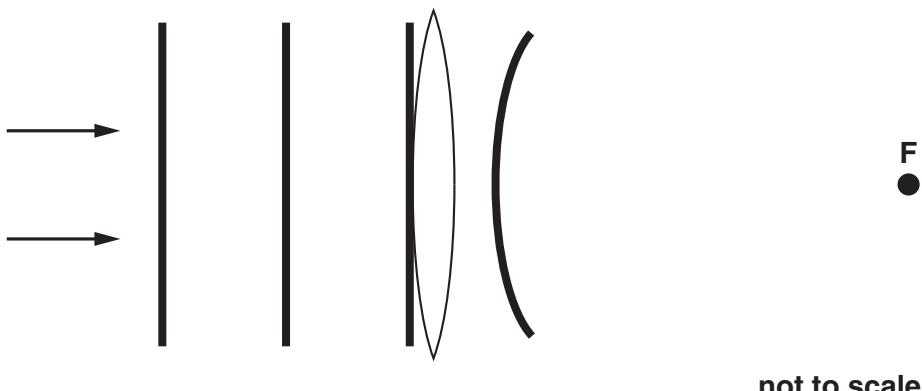

Fig. 2.1
- 2 Fig. 2.1 shows three wavefronts of the light from a very distant object incident on a lens.
- (b) On Fig. 2.1 one wavefront of the light between the lens, and **F**, the principal focus of the lens, has been drawn.